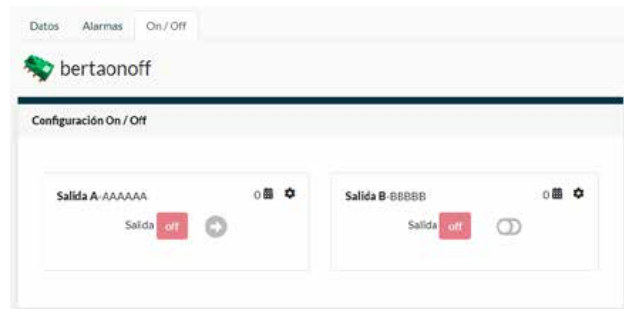

Figure 28 Scada web – ON/OFF status
- **Remote:** through the scada web (Figure 28). It is possible to read the configuration of the outputs and change their status.
On the first screen (Figure 28) you will see the main menu with various sections: